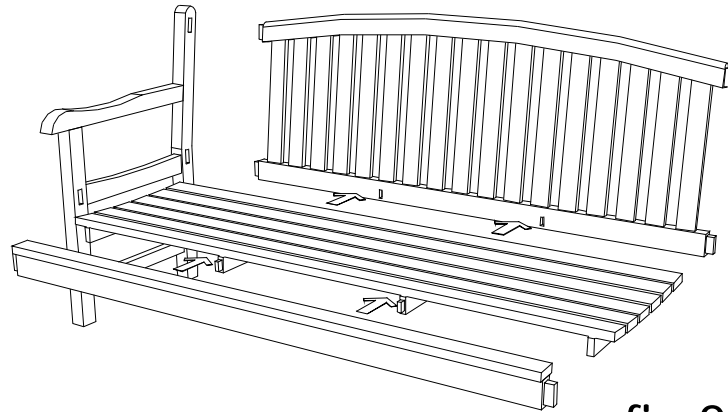

fig 2.
3. Insert the seat, front part of the seat, back support. (Fig. 2)